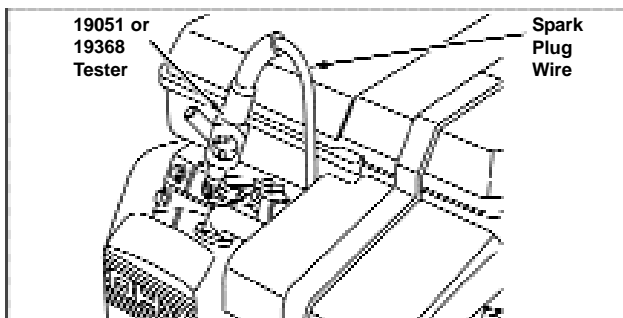

Figure 57 - Checking for Spark
1. Connect spark plug wire to long terminal of Spark Tester, Tool #95970-96 and ground tester to engine with alligator clip, Figure 57.